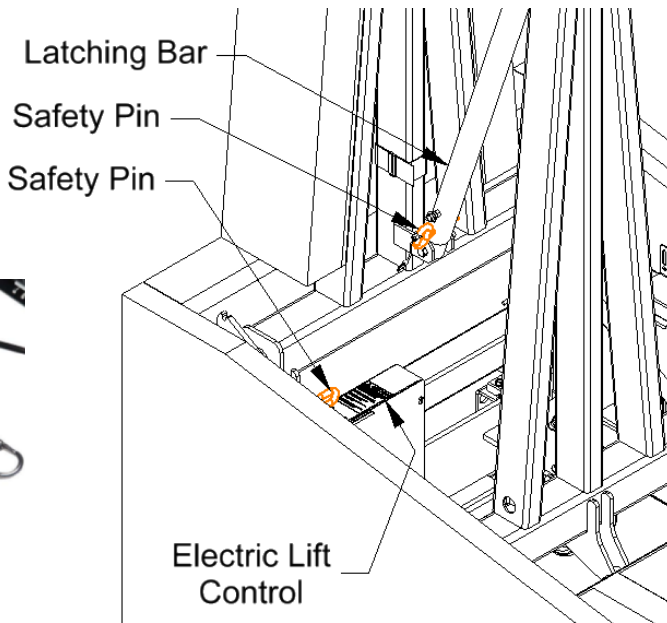

Figure 40
3. When complete, return the Safety Pin to the Latching Bar as shown in figure 40.